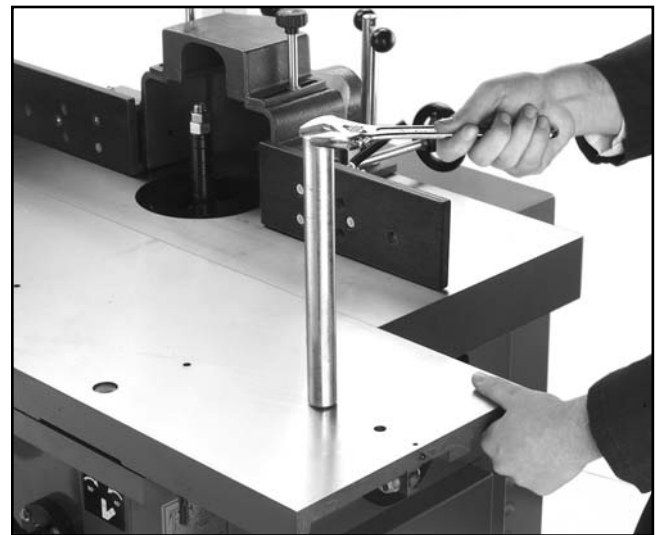

Figure 20. Installing the push shaft.
2. Install the push shaft as shown in **Figure 20**.